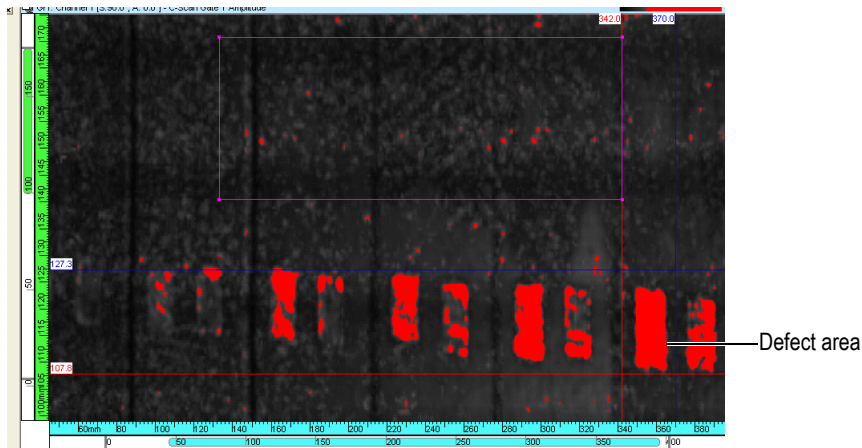

Figure 7-31 Positioning the cursors around the defect area
- a) Right-click on the title bar of a Top (C), amplitude, or position C-scan view.
5. On the C-scan view, move the reference cursor and the measurement cursors around the indication as in the example shown in Figure 7-31 on page 370.